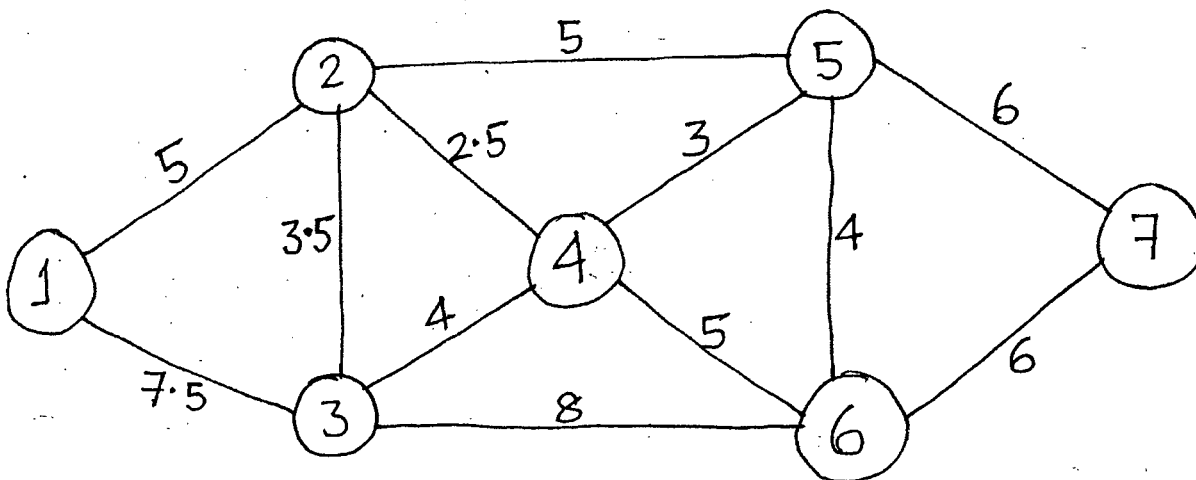

Figure 1: Transport network
1. (a) Draw and explain the load-deflection curve of a prestressed concrete beam under different stages of loading. (8)
- (b) A prestressed concrete beam shown in Fig. 1 is posttensioned with  $800 \text{ mm}^2$  of high tensile steel to an initial prestress of 1100 MPa immediately after prestressing. Compute the initial deflection at midspan due to prestress and the beam's own weight, assuming  $E_c = 25 \times 10^3 \text{ MPa}$ . Estimate the deflection after two months, assuming a creep coefficient  $C_c = 2.0$  and an effective prestress of 850 MPa at that time. Assume any data (if missing) appropriate for you calculate. (15  $\frac{1}{3}$ )